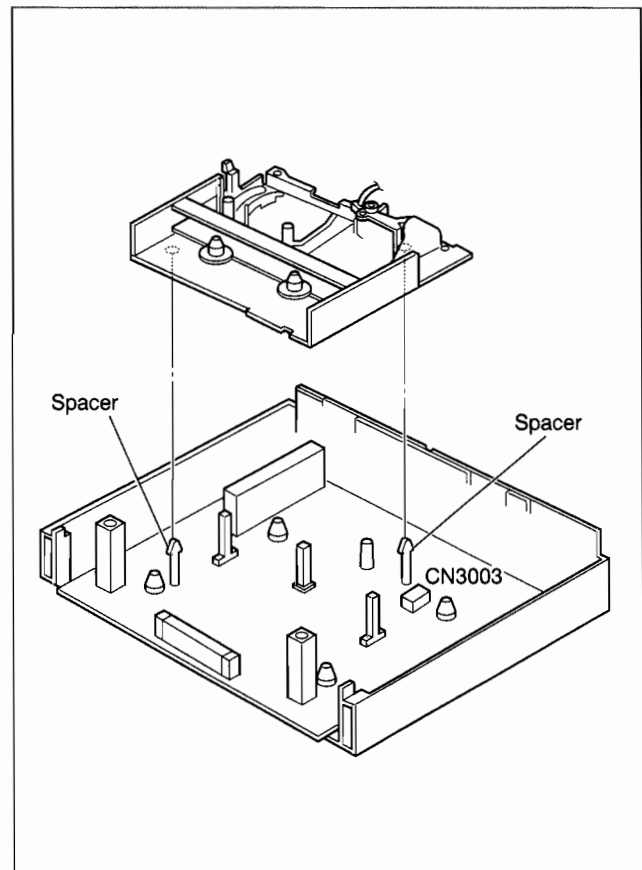

Fig. 2-2-18
- (1) Provisionally tighten the three screws (A) securing the capstan motor.
- (2) Install the mechanism assembly to which the capstan motor is provisionally fastened on the bottom chassis which incorporates the Main board assembly. (No need to tighten the screws for mounting the mechanism.) Make sure that all the connectors for the mechanism assembly and the Main board assembly are correctly installed as indicated in Fig. 2-2-18.